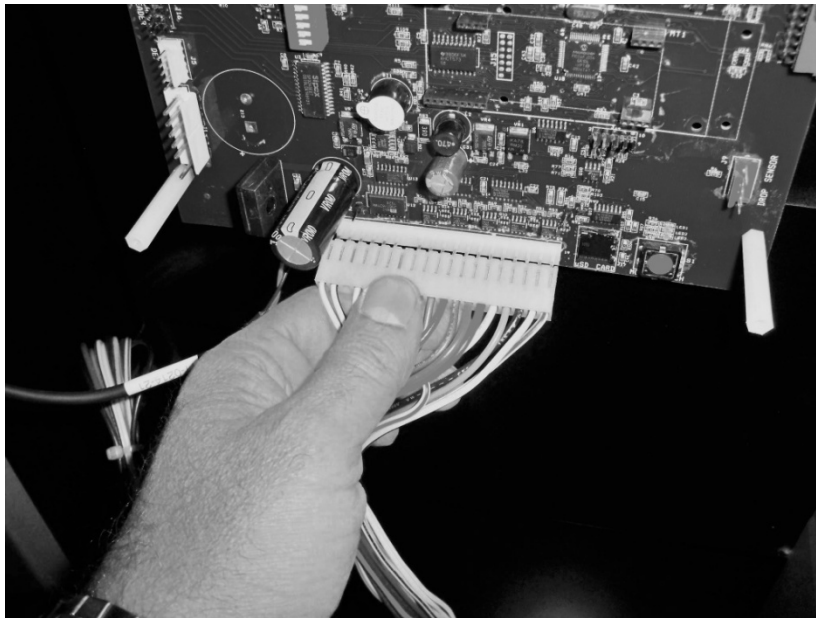

Figure 20
16. Connect the existing motor cable, as shown in figure 20, to the “MOTORS” header (J10) on VMC control board.